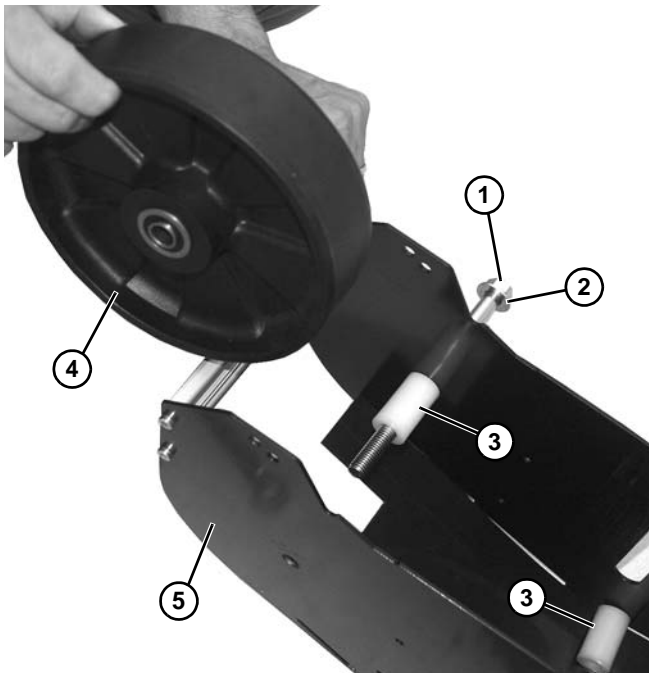

Figure 96
- Remove bolt (Figure 96, item 1), washer (Figure 96, item 2), two spacers (Figure 96, item 3), and wheel (Figure 96, item 4) from take up assembly housing (Figure 96, item 5).